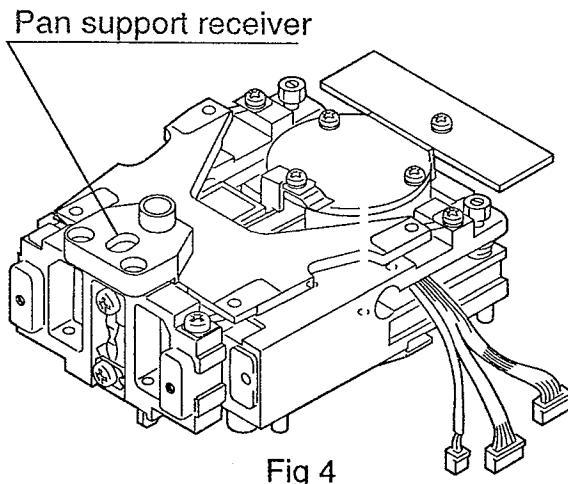

Fig 4
Step 4. Remove the pan support receiver from the top of the suspension guide (Fig 4).